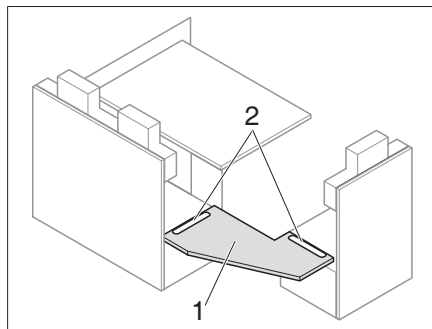
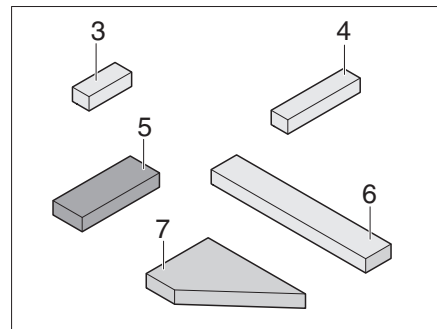
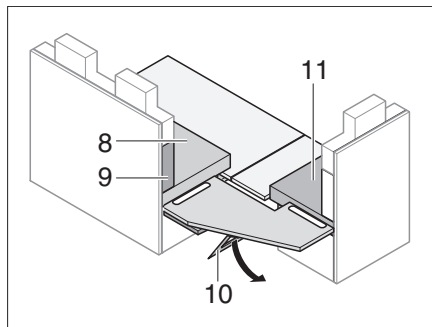
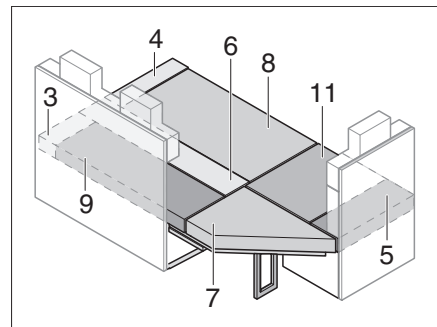

Fig. 177 Inserting the reinforcement panel
Fig. 178 Additional cushion
Fig. 179 Supporting reinforcement panel
Fig. 180 After conversion
- Insert the reinforcement panel (Fig. 177,1) into the grooves (Fig. 177,2).
- Fold out the support (Fig. 179,10) under the reinforcement panel (Fig. 177,1).
- Lay on the seat, backrest and additional cushions as shown in Fig. 180 (the item numbers refer to Fig. 178 and Fig. 179).
- Fold out the bench seat extensions (Fig. 177).